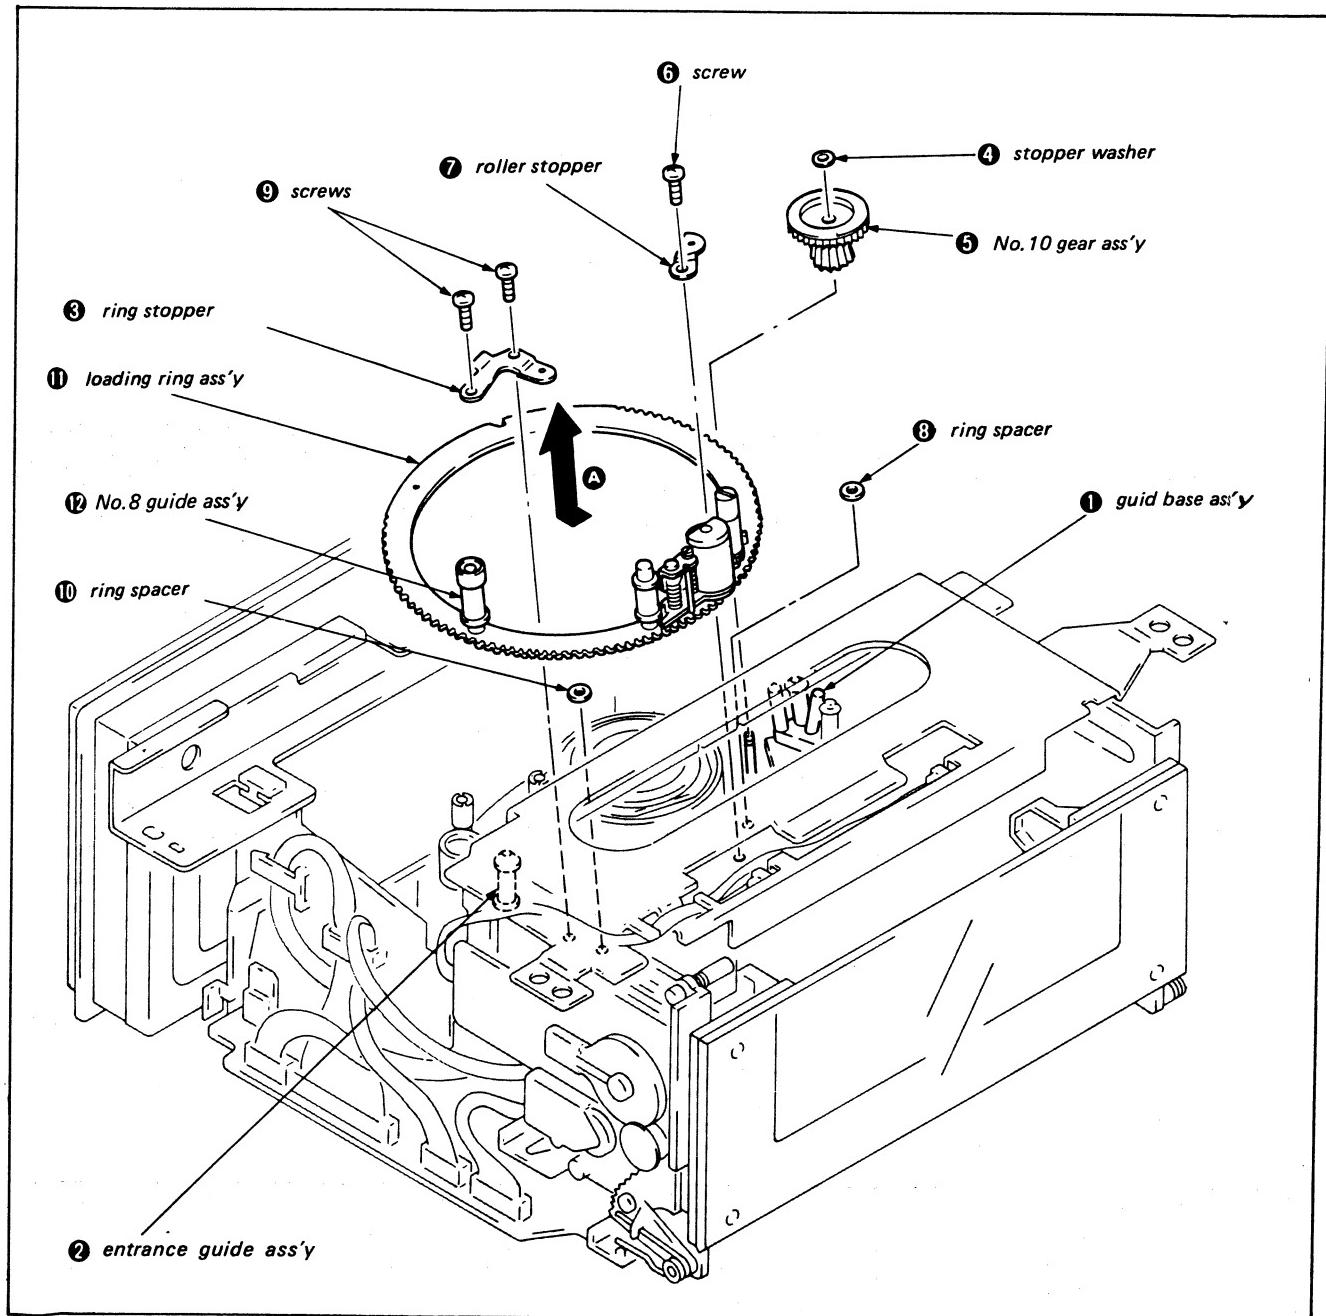
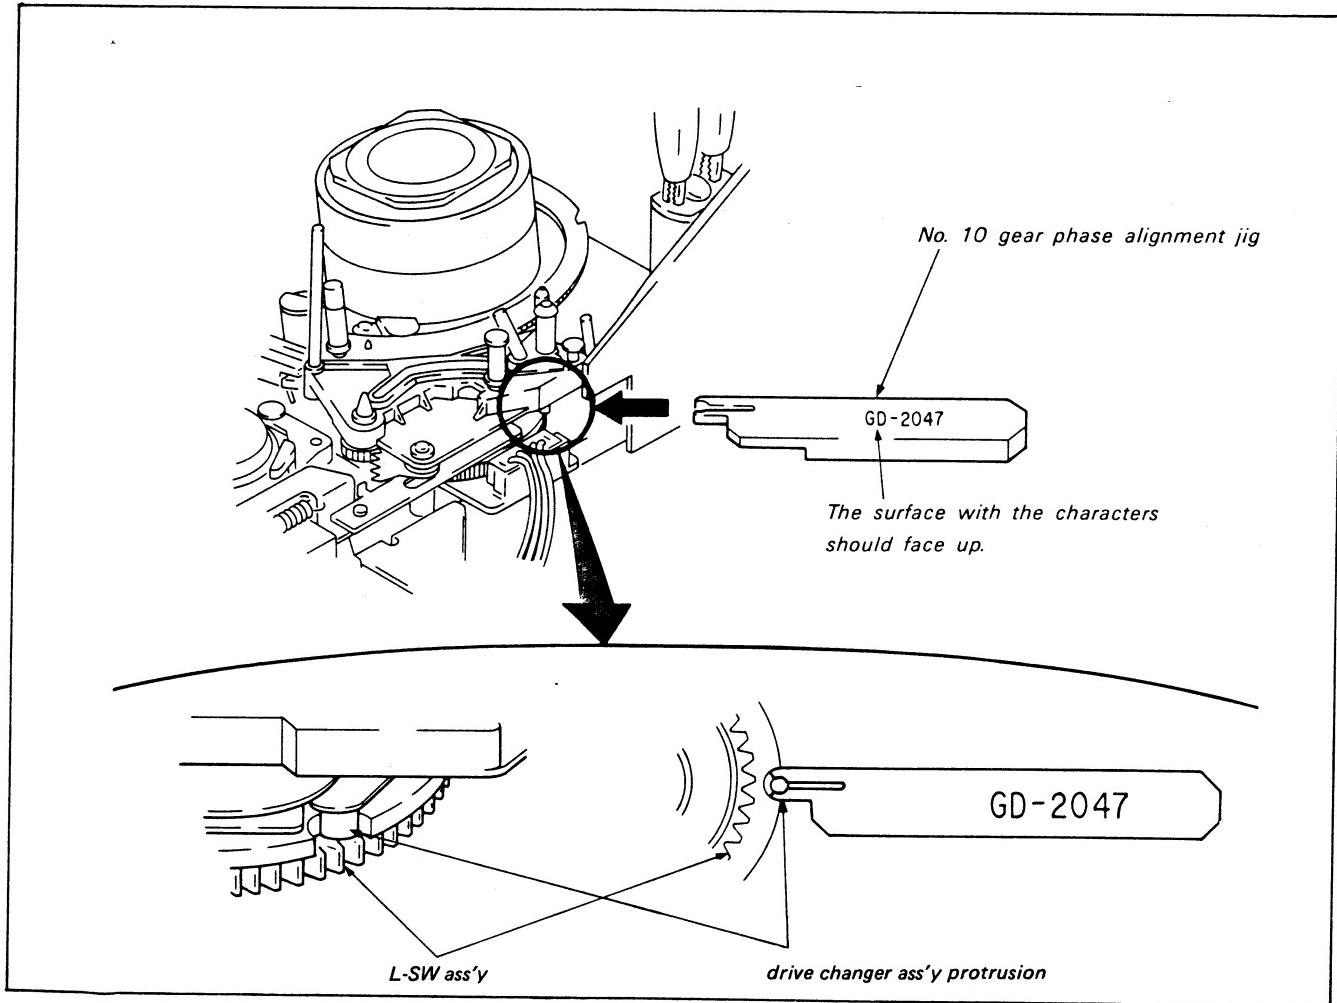
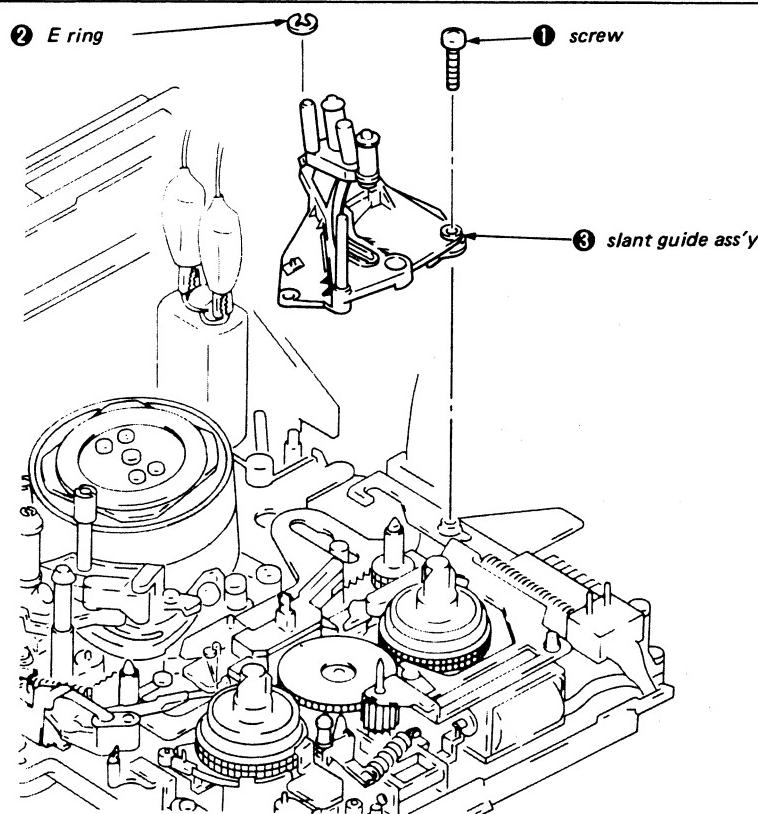

Fig. 3-8.
Fig. 3-9.
Fig. 3-22.
- 2) Operate the mode selector, and move the guide base assembly ① until just before lock, and the entrance guide assembly ② until just before lock where the ring stopper ③ screw is visible. (Do not move loading ring assembly ⑪.)
- 3) Remove the stopper washer ④ and remove No. 10 gear assembly ⑤.
- 4) Remove screw ⑥ and the roller stopper ⑦ and ring spacer ⑧.
- 5) Remove the two screws ⑨ and the ring stopper ⑩ and ring spacer ⑪.
- 6) Remove the loading ring assembly as shown by arrow A. (Refer to Fig. 3-8)
- 1) Mount the loading ring assembly ⑪ so that it is in unthreaded state (pinch roller arm assembly is on the front panel side). (Check that it is in the state in step 2) under Removal.)
- 2) Mount the ring spacer ⑩ and ring stopper ③ and tighten with the two screws ⑨. (No. 8 guide assembly ⑫ should be closer to the front panel than the ring stopper ③.)
- 3) Mount the ring spacer ⑧ and roller stopper ⑦ and tighten with screw ⑥. (Check that the loading ring assembly matches the three ring spacers.)
- 4) Place a half drop of oil on the shaft ⑬. (See Fig. 3-8)
- 5) Check that the protrusions on the drive changer assembly are in the indentations of the L-SW assembly and insert the No. 10 gear phase jig (Ref No. J-9). (See Fig. 3-9)
- 6) Mount No. 10 gear assembly ⑤ and stopper washer ④ while pushing the No. 8 guide assembly ⑫ against the ring stopper ③.
- 8) Set to [LOADING TOP] mode. (See Fig. 3-8)
- 1) Remove the loading ring assembly as described in 3-7., 1. Removal. (See Fig. 3-8)
- 6) Mount the loading ring assembly according to 3-7., 2. Mounting. (See Fig. 3-8)
- 2) Remove the loading ring assembly according to 3-7., 1. Removal. (See Fig. 3-8)
- 3) Remove screw ① and E ring ②.
- 4) Remove the slant guide assembly ③. (Refer to Fig. 3-22)
- 3) Mount the E ring ② and tighten screw ①. (Fig. 3-22)
- 5) Mount the loading ring assembly according to 3-7., 2. Mounting (Fig. 3-8)